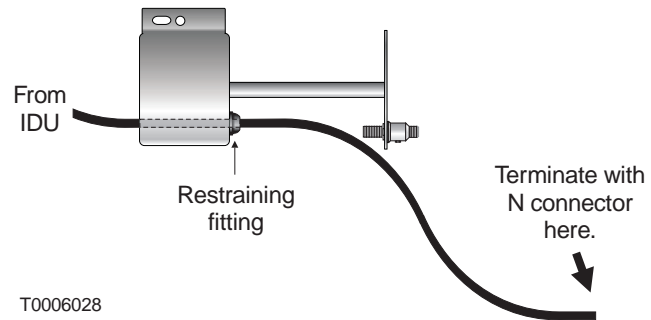

Figure 5-6 Routing IFL cable
2. Route the cable from the IDU chassis location through the base of the lightning arrestor and the restraining fitting, as shown in figure 5-6.